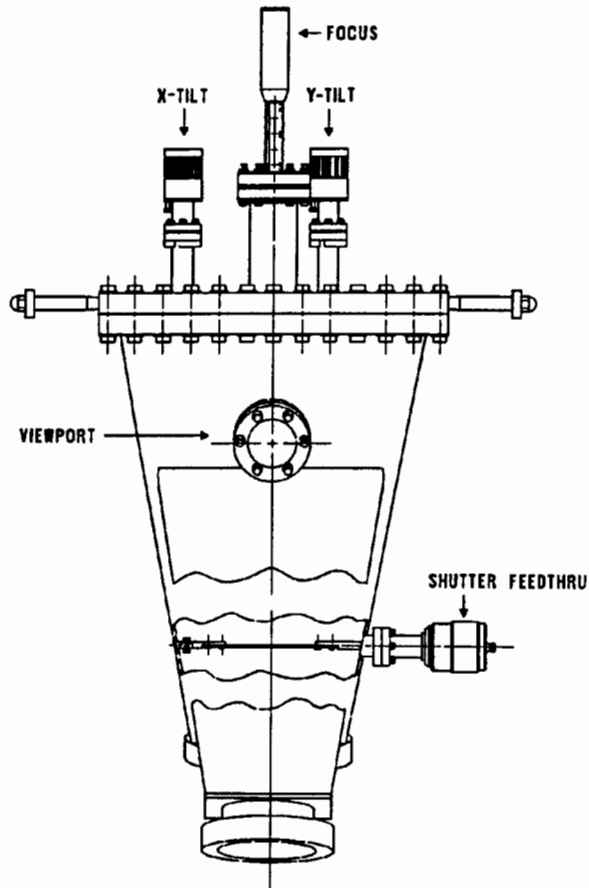

Figure 3-2. Front View of the PHI Model 10-410 Toroidal Monochromator.
7. Center the focus adjustment on the monochromator housing by setting it to its mid-range position (see Figs. 3-2 and 3-3).
8. Open the monochromator shutter by rotating the shutter feedthru fully counterclockwise (Fig. 3-2).
10. Adjust the x- and y-tilts on the monochromator housing (refer to Figs. 3-2 and 3-3) until a yellow-orange light appears on the phosphor screen. This light is from the reflection of the x-ray source filament off the crystal surface and appears elongated in the x-direction. Use the x-tilt to center the light on the phosphor.